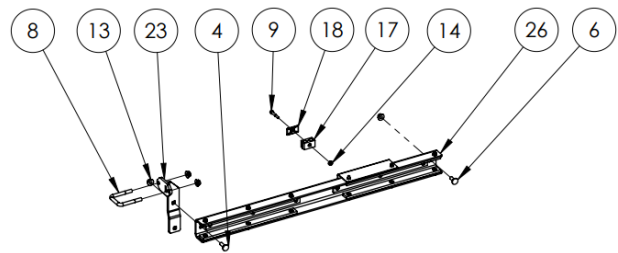

Figure 7: Front conveyor slide assembly
- d. Place one ½" x 1 - ¼" carriage bolt (6) through the right side of front conveyor slide assembly (26), see Figure 7.